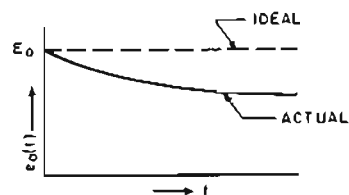

Figure 8. Integrator Hold Error
The first item of (7) is the output of an ideal integrator, while the terms in the brackets represent the errors due to finite gain. Figure 8 shows integrator hold error.